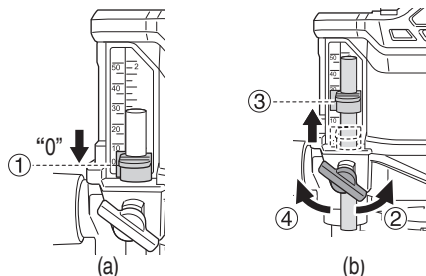

Fig. 15
- (4) Tighten wing bolt. Align the depth indicator with the "0" graduation of scale. (Fig. 15 (a))
- (5) Loosen wing bolt, and raise until indicator aligns with the graduation representing the desired cutting depth. Tighten wing bolt. (Fig. 15 (b))